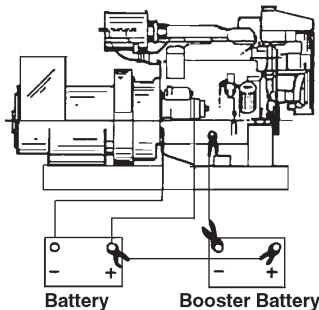

Figure 20:
3. First, connect positive (+) terminal of booster battery to positive (+) terminal of main battery. Then, connect negative (-) terminal of booster battery to ground on the engine block (see Figure 20).